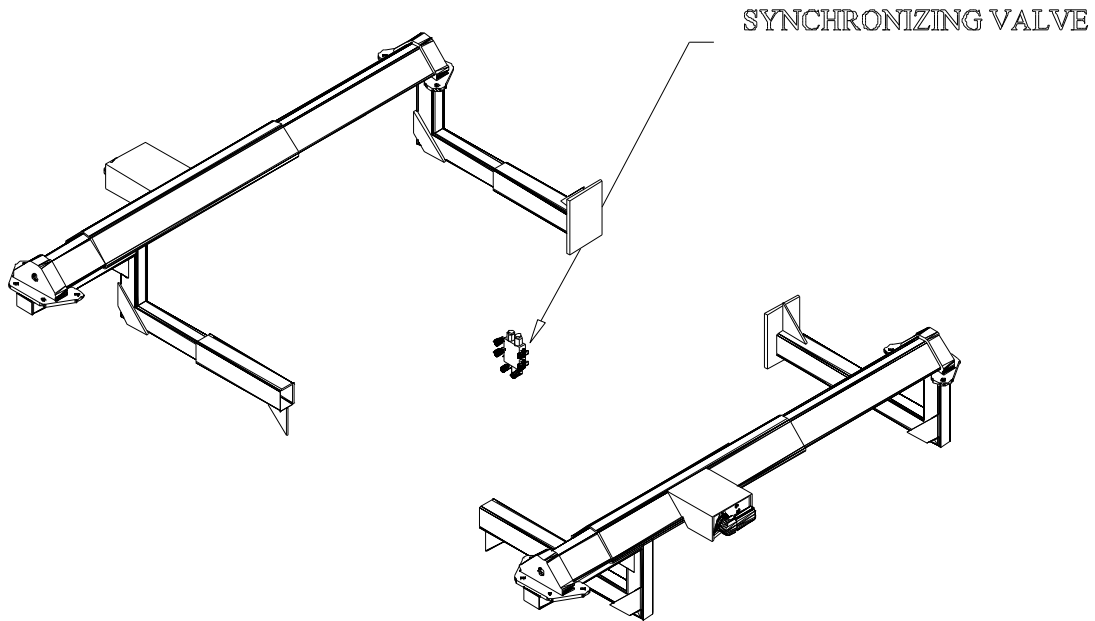

Figure 11
- 1) Mount the synchronizing valve near the middle of the pivots, making sure that it will not interfere with the container and that the hoses will reach each end of both sliding pivots. (Refer to Fig. 11)